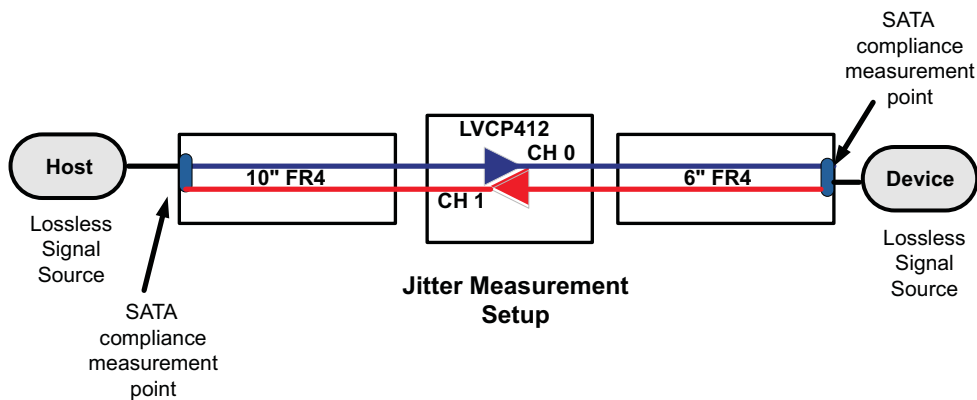

Figure 2. Jitter Measurement Test Condition
(1)  $T_J = (14.1 \times R_{JSD} + DJ)$  where  $R_{JSD}$  is one standard deviation value of RJ Gaussian distribution.  $T_J$  measurement is at the SATA connector and includes jitter generated at the package connection on the printed circuit board, and at the board interconnect as shown in Figure 2.